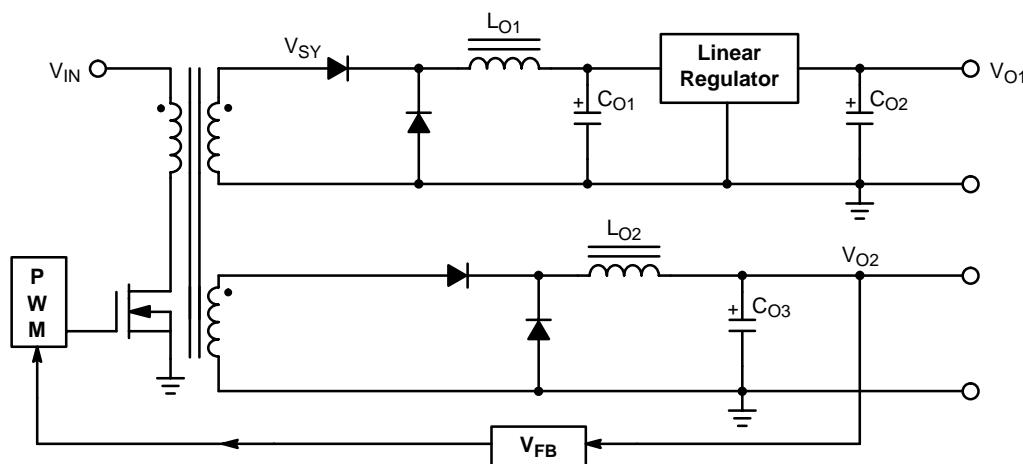

Figure 1. Linear Regulator
1. The Linear Regulator, Figure 1, is the simplest and the most popular for low current (3.0 A) applications. The major disadvantage of the linear regulator is its poor efficiency.